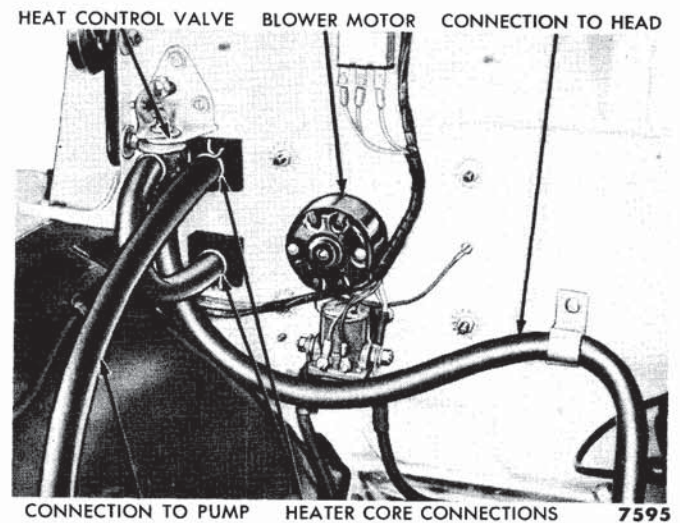

Fig. 14—Heater Hose Connections
13. Figure 14 shows the water hose connections to the heat control valve and the heater core.